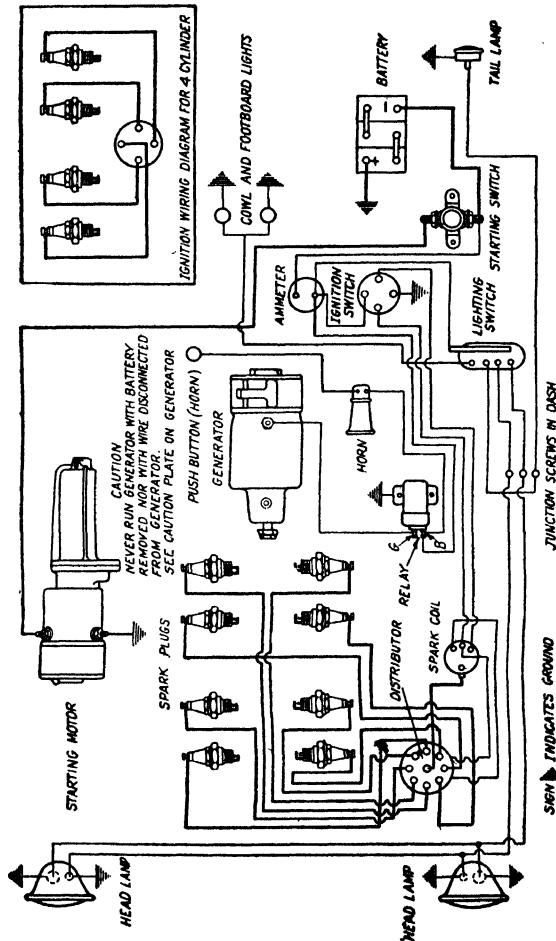

Fig. 356. Wagner Two-Unit System for Scripps-Booth Four- and Eight-Cylinder Models
**Wiring Diagram.** A typical wiring diagram of the Wagner two-unit system as installed on the Scripps-Booth four- and eight-cylinder models is shown in Fig. 356. The only difference in the wiring of the two models has to do with the ignition